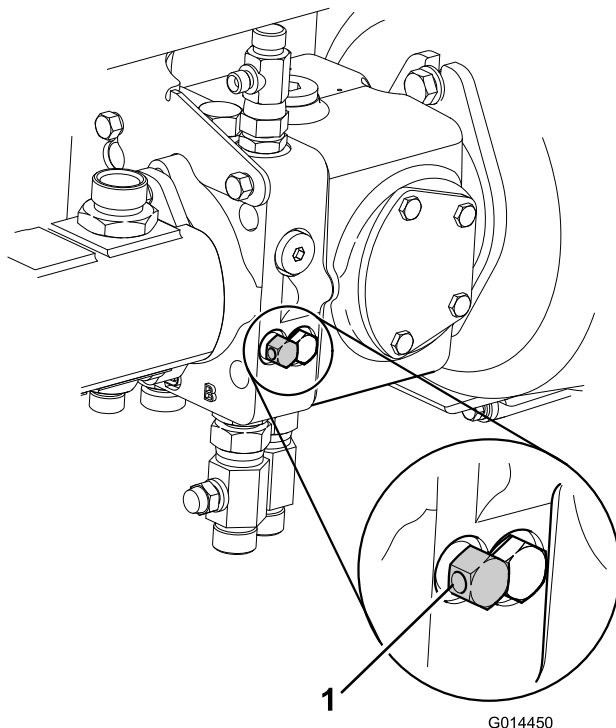

Figure 47
7. Release the hydraulic-braking system by turning the bypass valve, located under the transmission pump, counter-clockwise, a maximum of 3 turns (Figure 47).